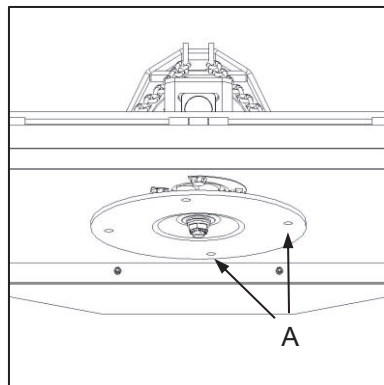

Fig. 6
- ✔ Check blade mounting holes (Fig. 6-A) for signs of wear, elongation or fractures. In the event of any observed defect do NOT attempt a repair, but provide immediate replacement of the defective disc.
- ✔ Gaan lemmonteringsgate (Fig. 6-A) na vir tekens van slytasie, vergroting of breuke. In die geval van enige waargenome defek, moet NIE probeer om dit herstel nie, maar vervang die defekte skyf onmiddellik.